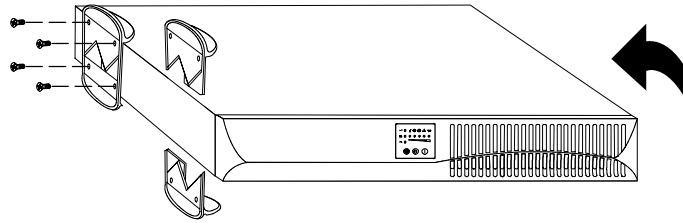

Figure 4. Installing Pedestals on a Single Cabinet
2. Place the UPS cabinet horizontally so that the left end of the unit is accessible (see Figure 4).